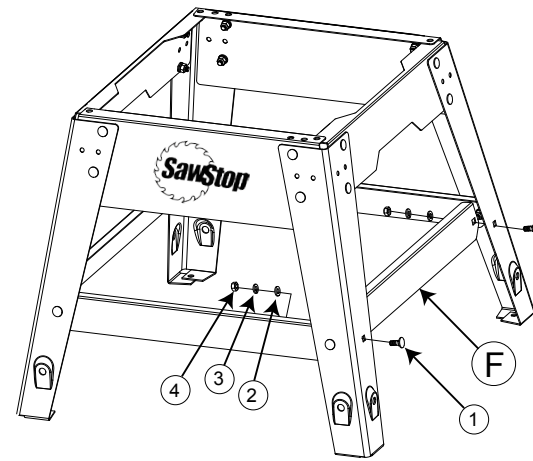

Fig. 7
- Attach one long bracket marked F between the legs on the right side of the stand (see Fig. 7). Make sure the legs are in front of the brackets. Use two M8 x 20 carriage bolts, two M8 washers, two M8 lock washers, and two M8 hex nuts to attach the long bracket. Do not fully tighten the nuts. Repeat this process to attach the remaining long bracket between the legs on the left side of the stand.